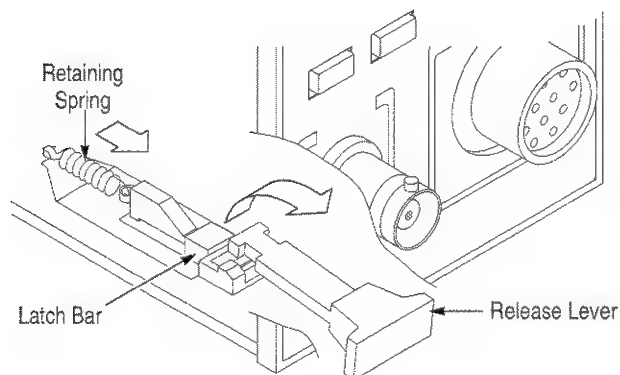

Figure 7-2: Removing the Amplifier Release Lever
2. Push the latch bar forward as shown in Figure 7-2. Pry the back end of the release lever up and pull the release lever through the front panel.
5. Using a spring hook or a pair of needle-nose pliers, remove the retaining spring. Refer to Figure 7-2.